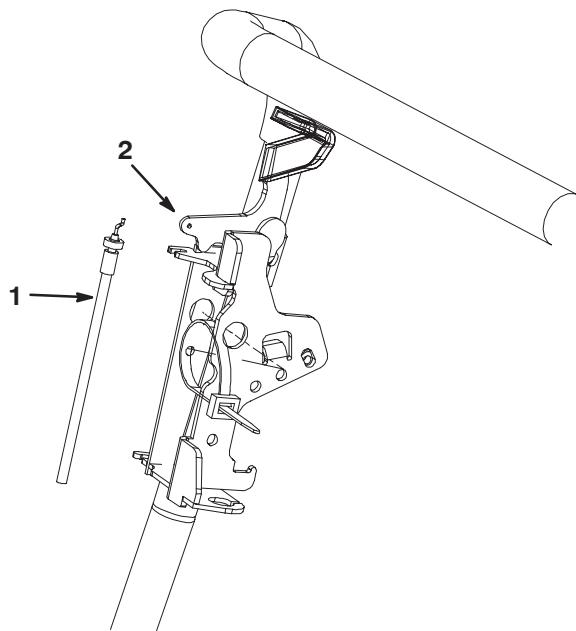

Figure 4
9. Disconnect the throttle cable (Fig. 4) from the throttle lever assembly as follows:
21. Connect the throttle cable (Fig. 4) to the throttle lever assembly as follows: